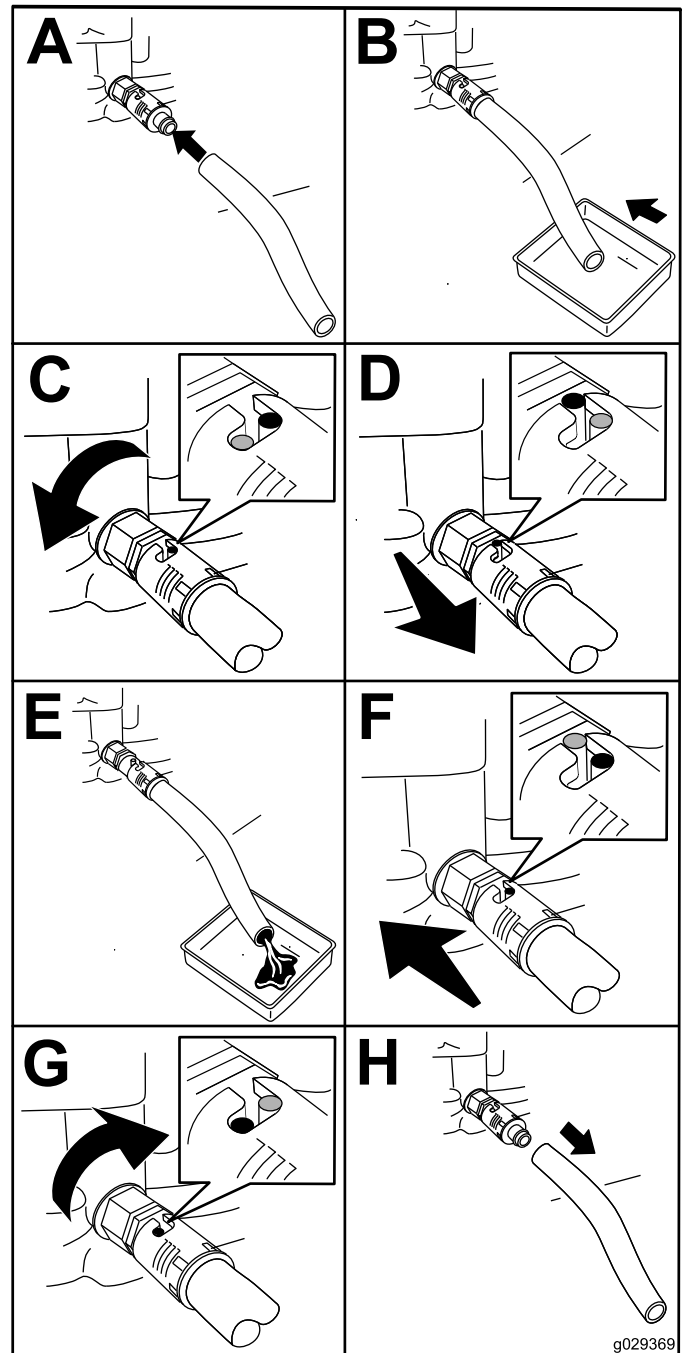

Figure 30
4. Install the drain hose onto the drain valve (Figure 30).
5. Place the other end of the hose into a suitable container for oil (Figure 30).
6. Turn the oil drain valve 1/4 turn counterclockwise to start draining the oil (Figure 30).
7. When all the oil is drained, turn the oil drain valve 1/4 turn clockwise to close the valve (Figure 30).